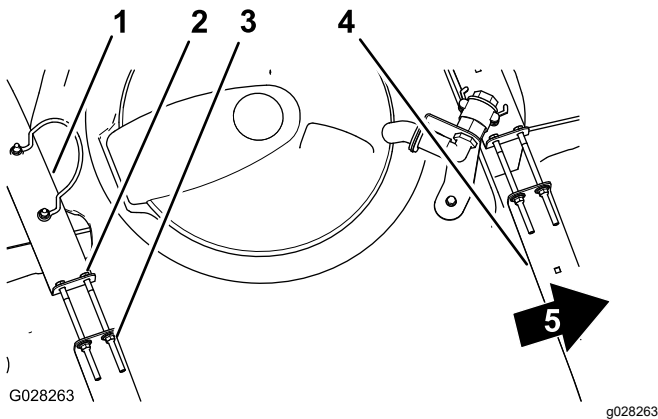

Figure 69
2. Check to see if there is any movement between the tank straps and the tank (Figure 69).
3. If the tank straps fit loose to the tank, tighten the flanged locknuts and bolts at the top of straps until the straps are flush with the surface of the tank (Figure 69).